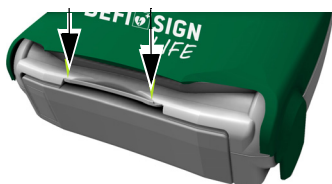

**Abb. 4.9** Removing the adhesive pads
- Carefully peel the pads off the patient's skin (see Abb. 4.9 Removing the adhesive pads)